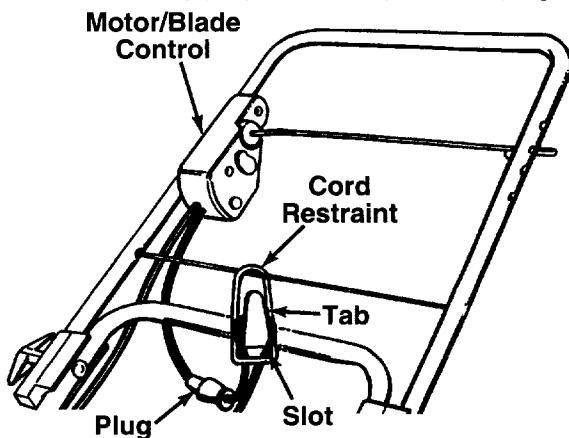

FIGURE 7.
- Attach extension cord to the cord restraint as follows. Form a small loop in the extension cord. Allow enough excess cord to make the connection to the motor/blade control (approximately 20 inches). Slip the loop through the slot on the bottom of the cord restraint, and up over the tab, to prevent disconnection from the motor/blade control during operation. Leave enough cord to allow the cord restraint to move freely from side to side. See figure 7.